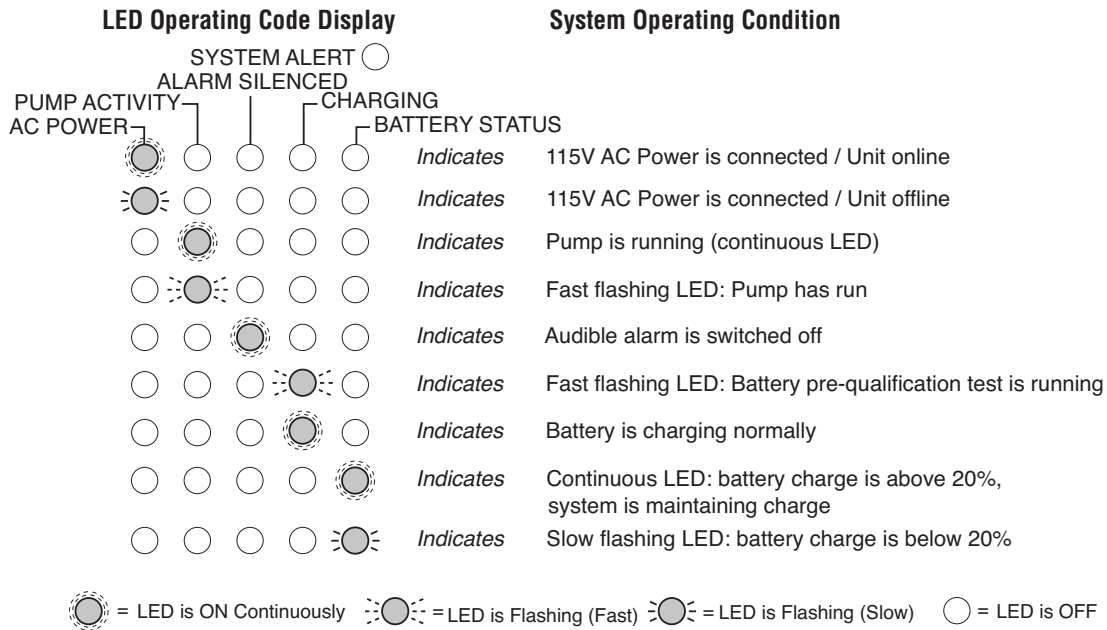

FIGURE 6: OPERATING CODE DISPLAYS (LEDS LIGHTED CONTINUOUSLY OR FLASHING)
- ◆ When the System Alert light IS NOT flashing, refer to Figure 6.